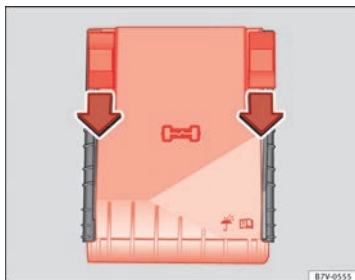

Fig. 202 In the engine compartment: fuse box cover
- Move the attachment tabs forwards, in the direction indicated by the arrow to release the fuse box cover ⇒ Fig. 202.